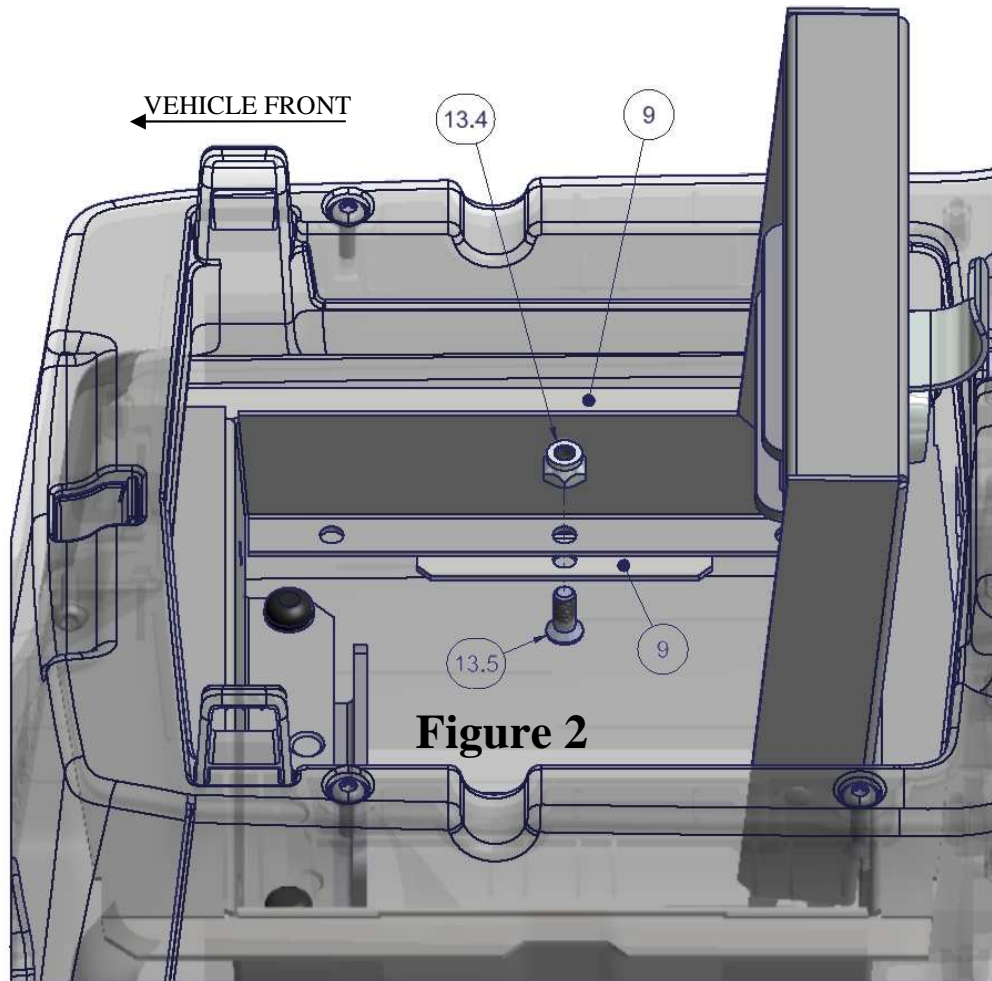

Figure 2
5. Install the #9 Right Fill Plate using (1) #13.5 Screw, and (1) #13.4 Nylock Nut. As with the left side, the Fill Plate should be inserted through the opening of the Console Insert, and then lifted into position between the wall of the console and the outer edge of the Console Insert collar. (See Figure 2) **NOTE:** Screw is installed upward to provide temporary clearance for the next steps.